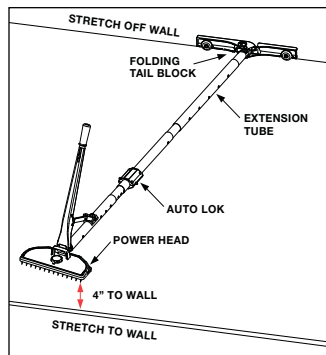

Figure 1
- A. Place the Power Head 4 inches from the starting wall at the prescribed angle for the kind of carpet you are installing. (See figure 1.) See stretch pattern diagrams on pages 5-7 for general rules, but always follow the carpet manufacturer's recommendations.